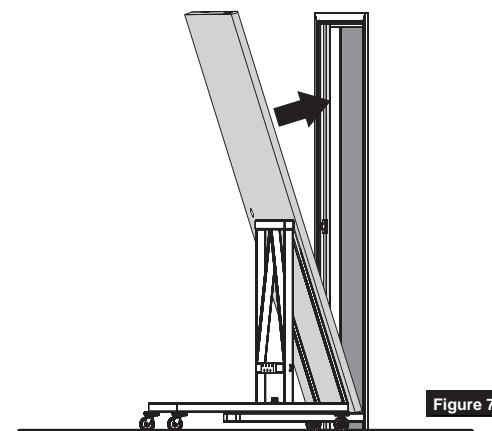

Figure 7
Caution: Know weight of door before attempting to install. Determine proper equipment needed to prevent door from falling. (Figure 7)
1. Set door on floor pivot spindle and tilt top of door pivot portion into top jamb portion. (Figure 7)
Caution: Know weight of door before attempting removal from frame. Determine proper equipment needed to prevent door from falling. (Figure 7)